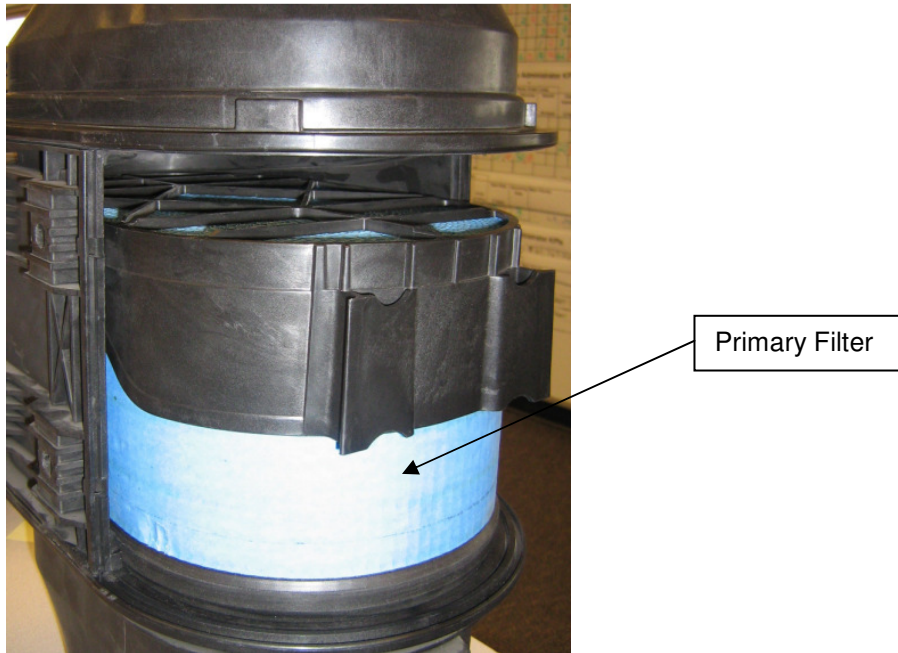

Figure 11: Primary Filter Installation
19. Using the handle on the primary element insert it into the housing at the same angle it was removed (5 degrees) until it makes contact with the inside of the housing. Pull down on the handle to complete seal. Note the element must be properly seated to properly install the service cover. See Figure 11.